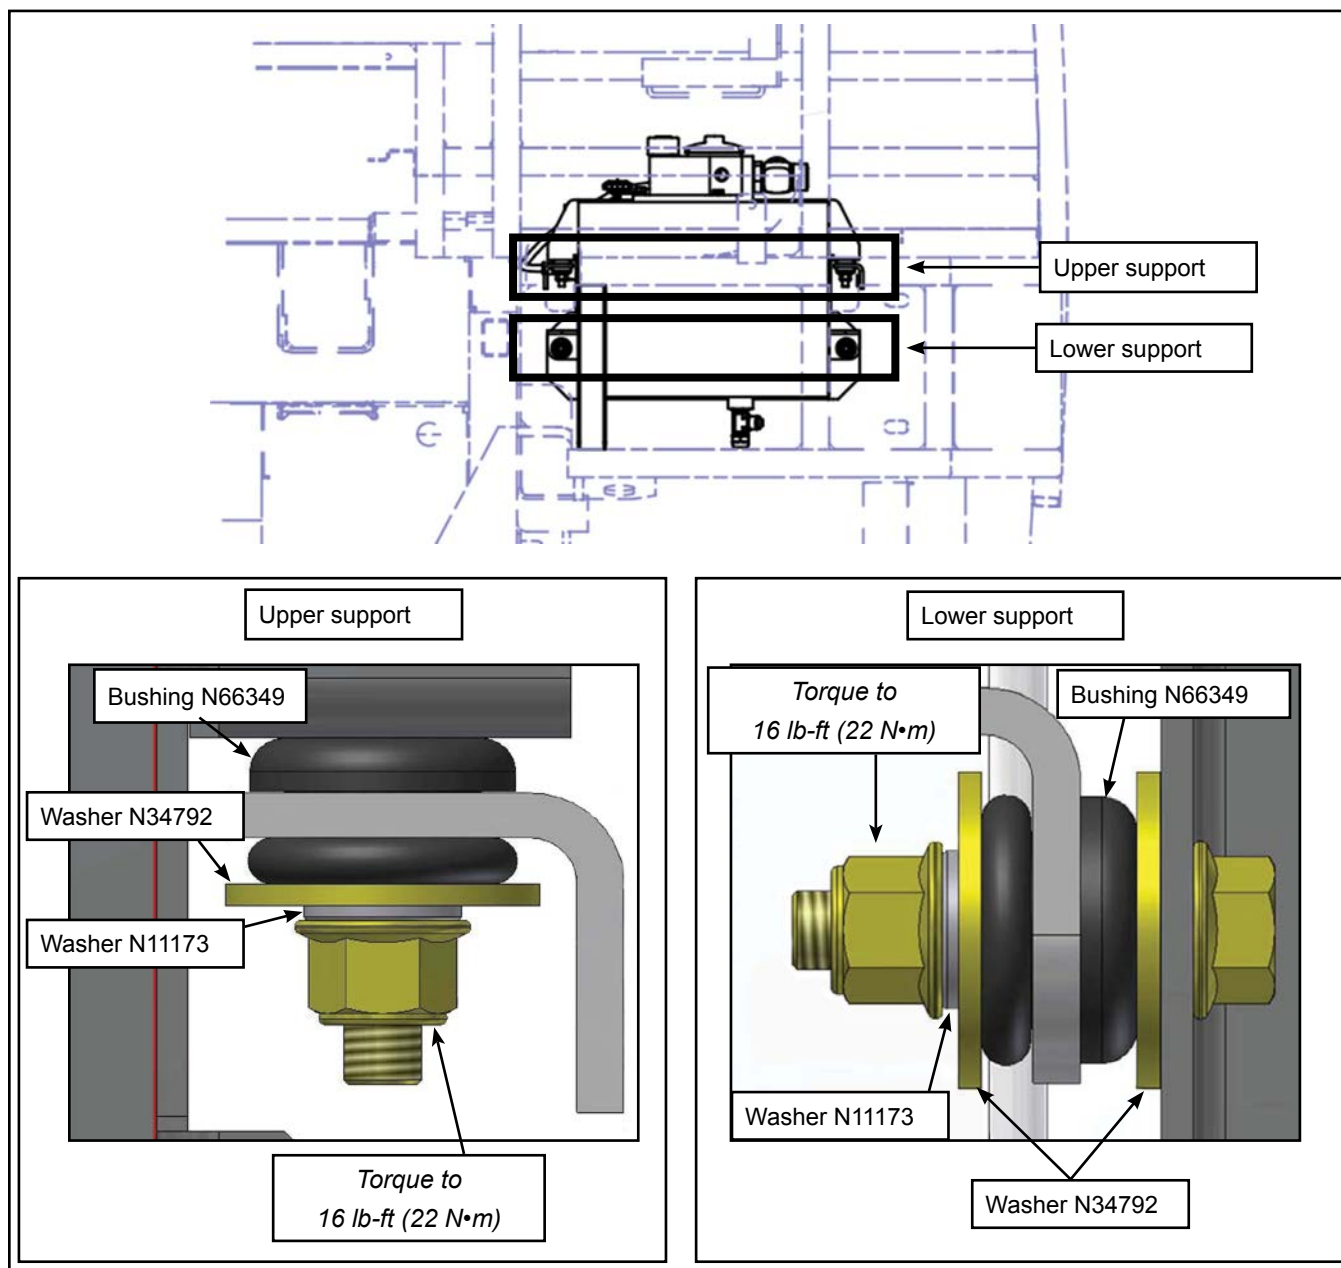

Figure 1 - New Hydraulic Reservoir Anchor Hardware
- 1.4. Install two oversized washers N34792, one washer N11173 and one bushing N66349 on each lower support and fix them with the retained bolts and nuts. See Figure 1 for the position of the hardware and the torque value.
- 1.5. Install one oversized washer N34792, one washer N11173 and one bushing N66349 on each upper support and fix them with the retained bolts and nuts. See Figure 1 for the position of the hardware and the torque value.